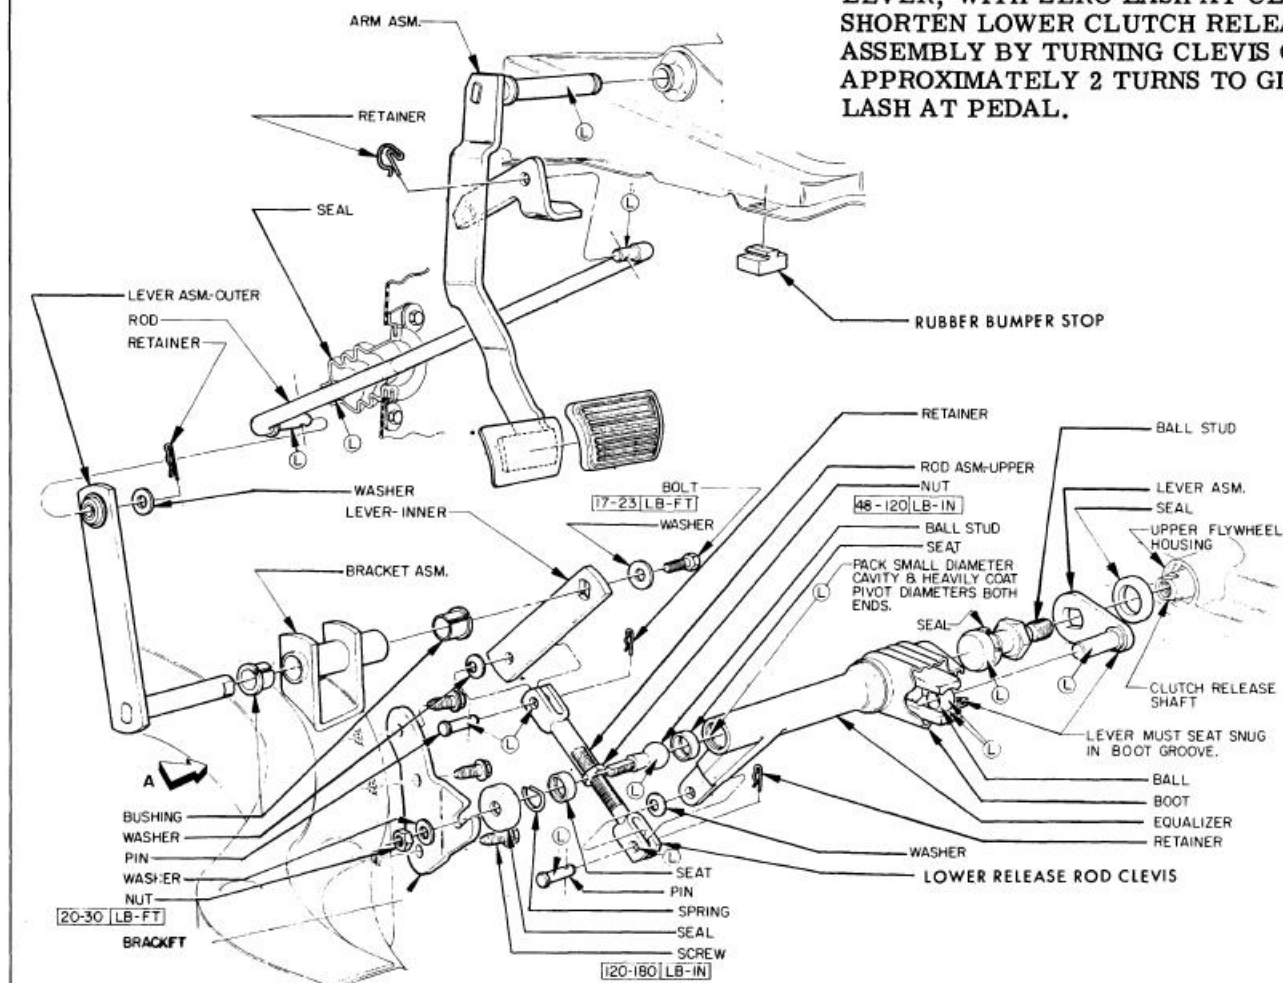

Figure 4-1—Clutch Outer Controls
2. Disconnect lower clutch release rod assembly from equalizer. See Figure 4-1.
5. Remove release lever and seal. See Figure 4-1.
7. Install ball stud to clutch release shaft. See Figure 4-1.
9. Install clutch equalizer and lubricate as shown in Figure 4-1. Torque nut on frame side of equalizer to 20-30 lbs. ft. See Figure 4-1.
4-2 CLUTCH ADJUSTMENT (See Figure 4-1)